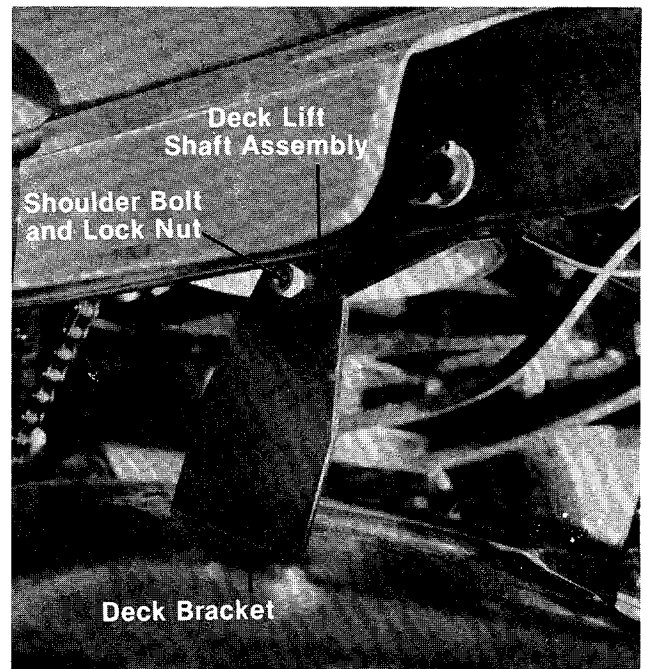

FIGURE 38.
7. Remove the shoulder bolt and lock nut from the deck lift shaft assembly and deck bracket, located on right hand side of deck. See figure 38. A 1/2" wrench and 5/8" wrench are required.